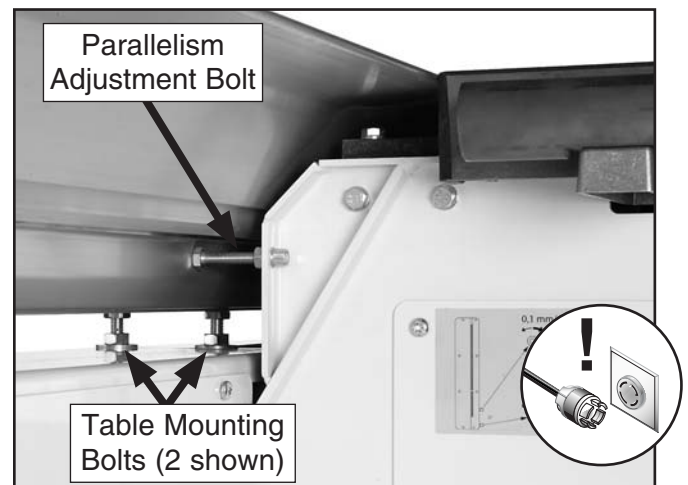

Figure 97. Table parallelism adjustment bolt.
7. Loosen all of the sliding table mounting bolts (**Figure 97**).